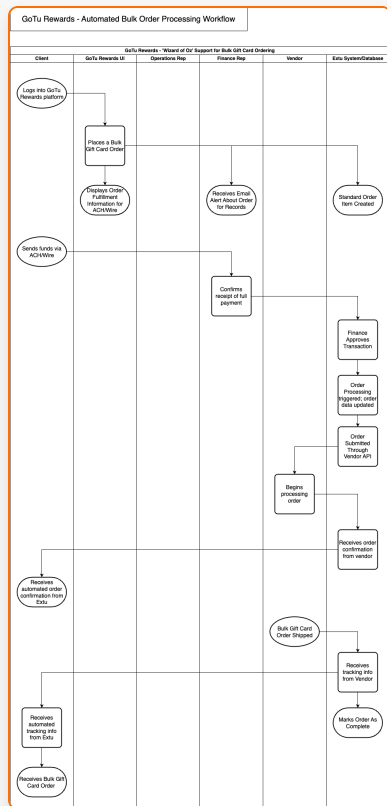
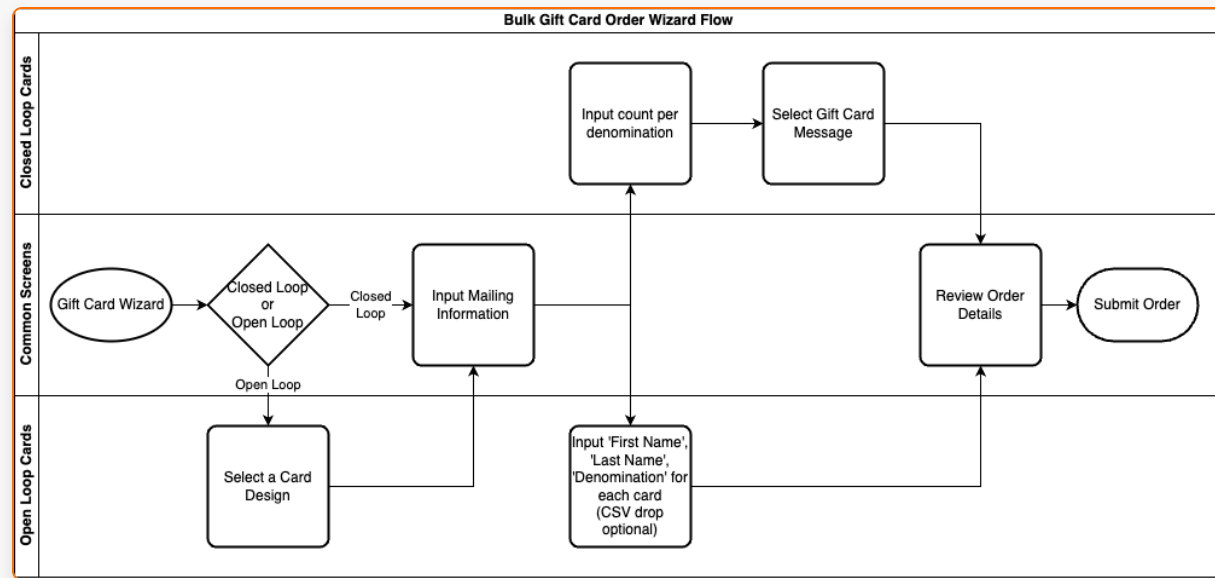

Fig. 16: Future-State Automated Workflow
Fig. 17: Future-State Bulk Gift Card Ordering Wizard Workflow
- **Roadmap Development:** Positive feedback and initial success justified further investment in building a fully automated platform (see Fig. 16), and a streamlined ordering process (see Fig. 17).